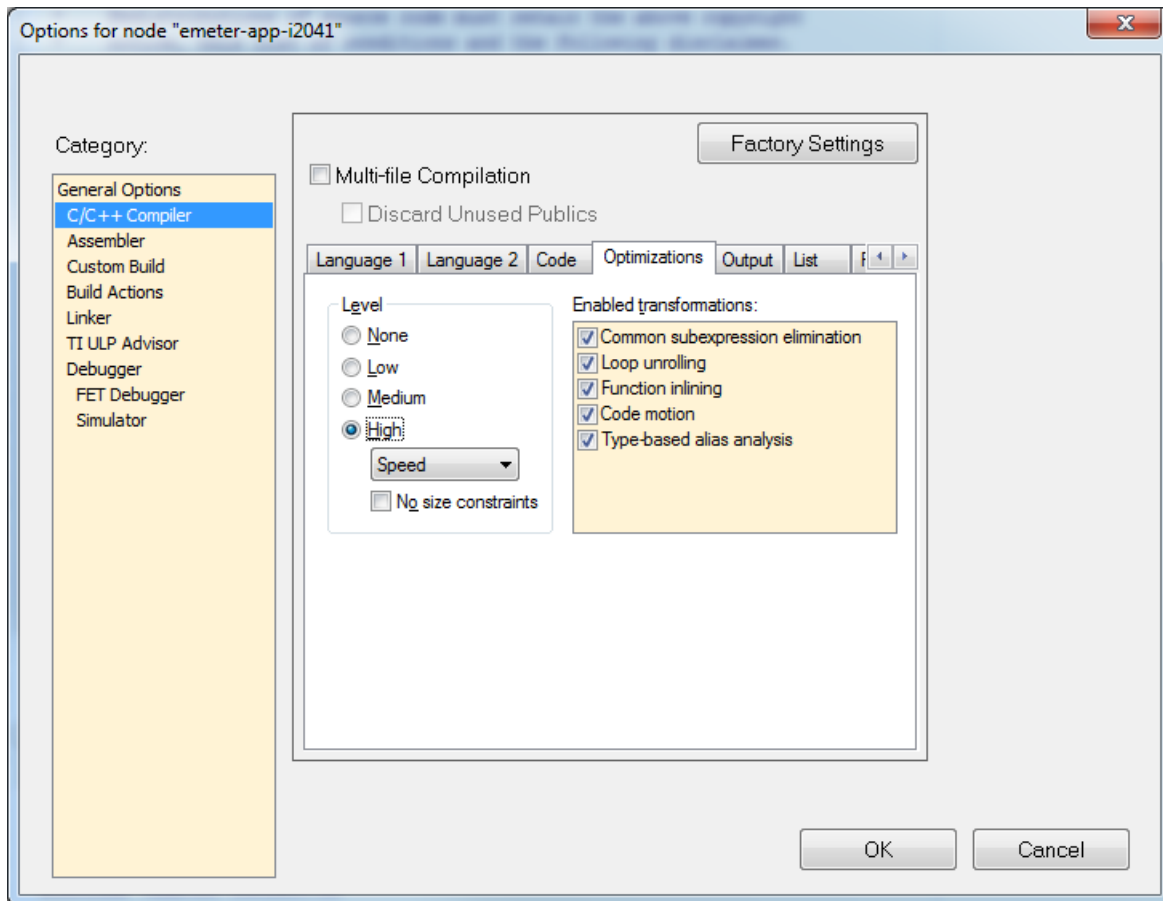

Figure A-2. Optimization Options
3. When the options appears select [C/C++ compiler] on the left hand column and then select the **Optimizations** tab on the right hand side and check that the optimization setting is as shown in Figure A-2.